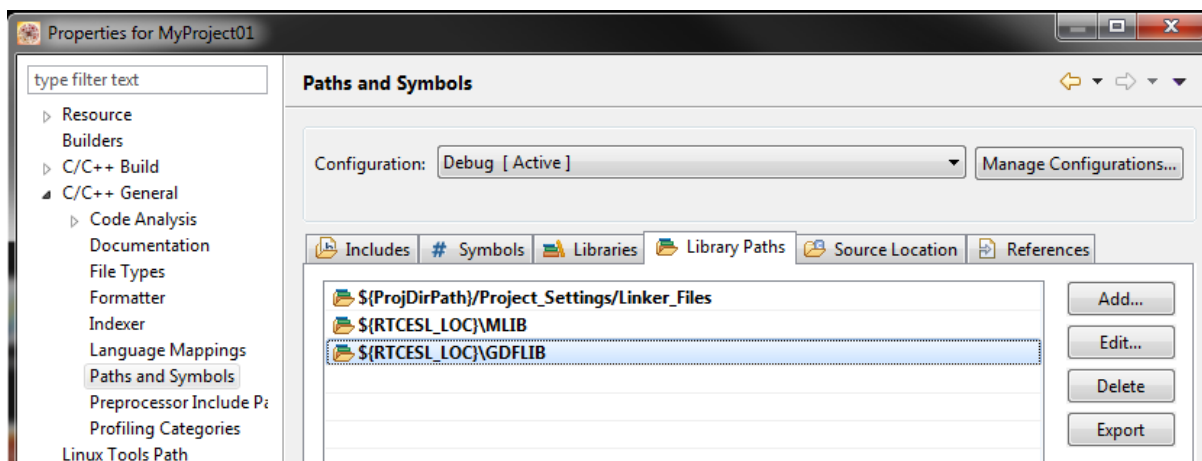

Figure 1-12. Library paths
3. In the right-hand dialog, select the Library Paths tab. See Figure 1-12.
8. Click OK, and the paths will be visible in the list. See Figure 1-12.